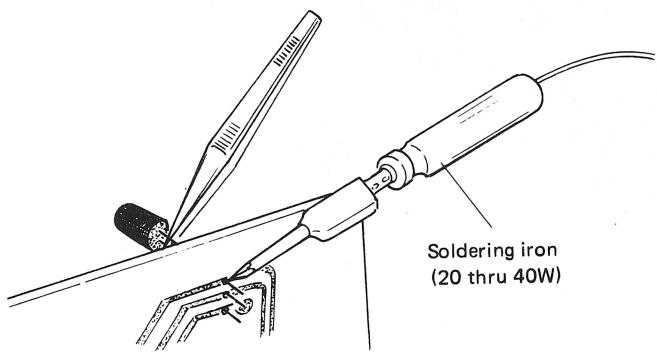

Fig. 8
5. When soldering transistors or other semiconductors, use tweezers or a heat sink clip as shown in **Fig. 8** to prevent heat damage.